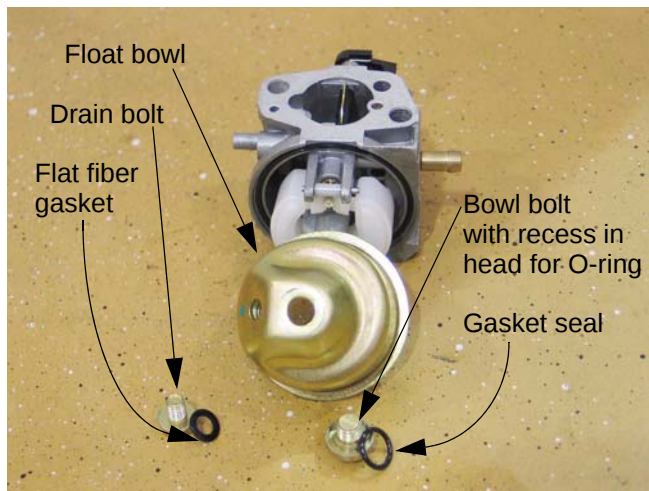

Figure 8.23
8.23. Bowl removal is a logical place to begin carburetor disassembly. Remove the bowl bolt using a 10mm wrench. See Figure 8.23.